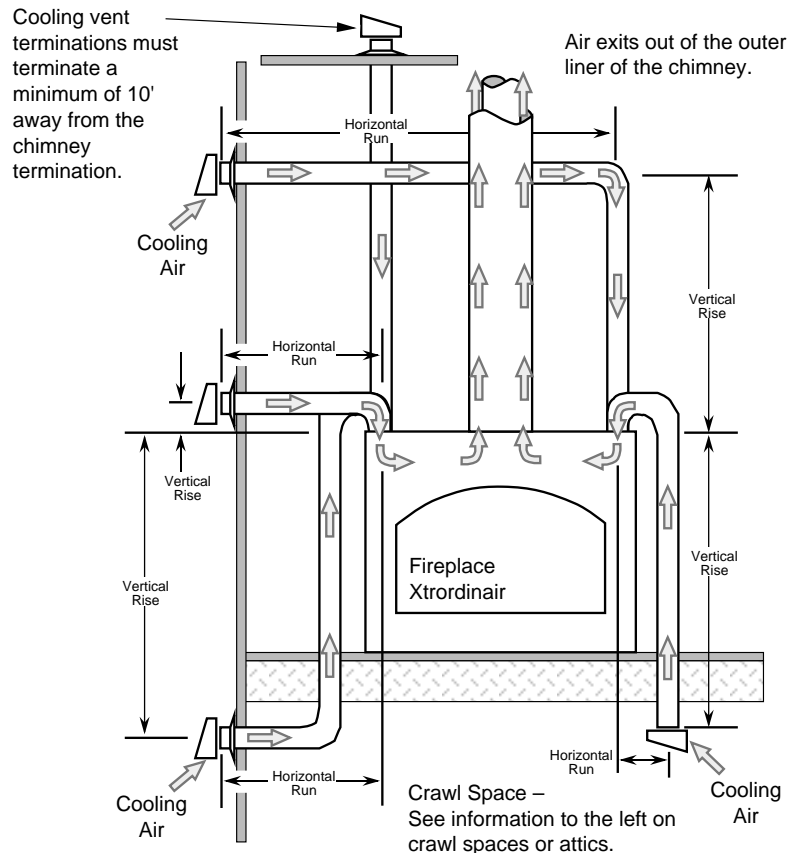

Figure 12
- A maximum of two 90° bends may be used on each vent. However, if a 180° bend is placed directly above the starter collar, one additional 90° bend may be used (see Figure 12).